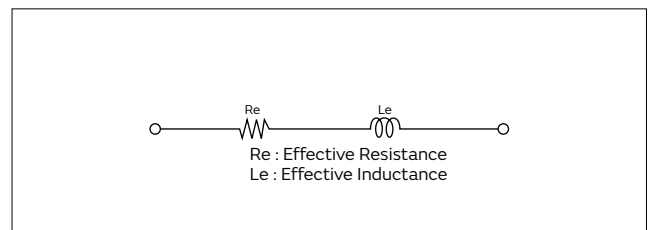

Fig. 2-4 Equivalent Circuit of CERALOCK in the Frequency Band  $F_r \leq F \leq F_a$
Considering the limited frequency range of  $F_r \leq F \leq F_a$ , the impedance is given as  $Z = R_e + j\omega L_e$  ( $L_e \geq 0$ ) as shown in Fig. 2-4, and CERALOCK should work as an inductance  $L_e$  (H) having the loss  $R_e$  ( $\Omega$ ).